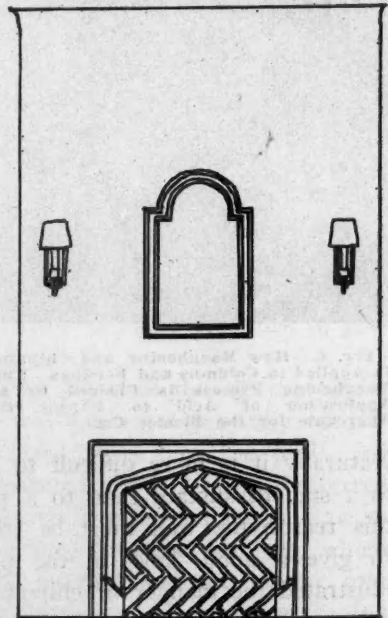

Fig. 4. Art Stone is the Material Used in This Little Design. Note the Unique Firebrick Lining.
C. G. Hinman of St. Paul. It is built of concrete block faced with moulding of red tapestry brick set on edge, a frieze of concrete art stone of colored terra cotta tile bearing a number of medallions, and sand-float finished tinted cement plaster. The canopy is of Russia iron on a wrought iron frame. D. H. Works, of Minneapolis, is the designer of the artistic little fireplace shown in Figure 4. It exposes a very sim-